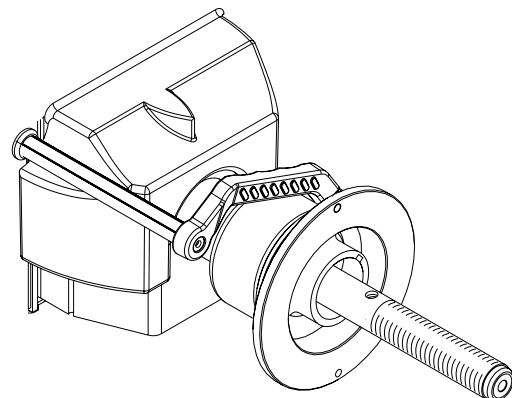

Figure 43 - Extension Resting on Bell Collar
6. Gently pull the SAPE out and rest the arm of the SAPE gauge on the inner part of the bell housing as shown in Figure 43. A tone will sound and the display will change to **"BAC" "H" "POS"**.